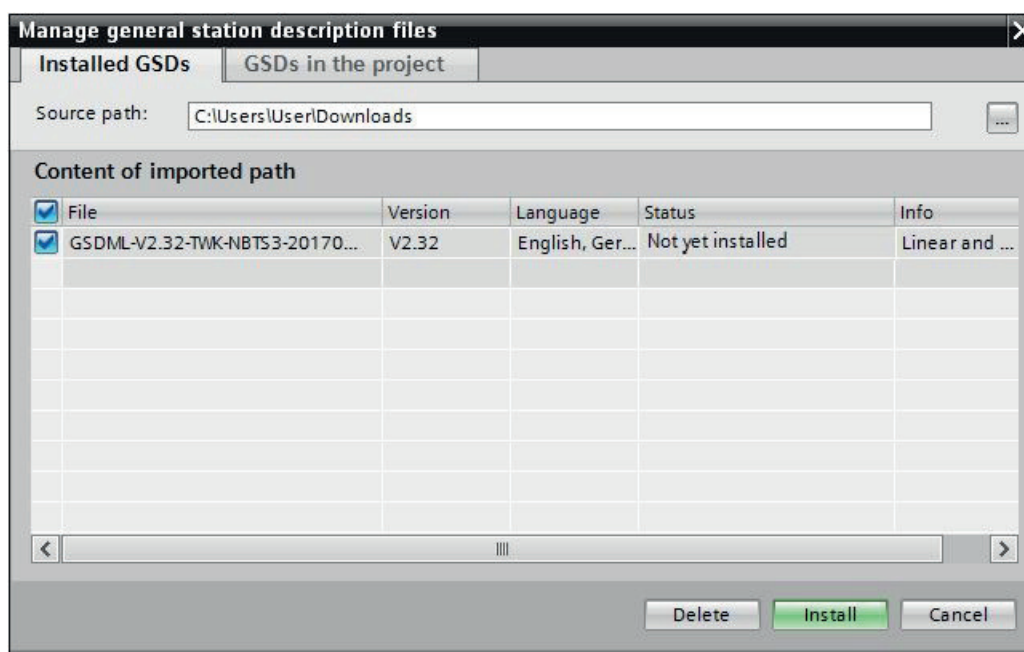

Fig.: 2
- Set the source path to your GSD file, check the GSD file and click on "Install" (see Figure 2).